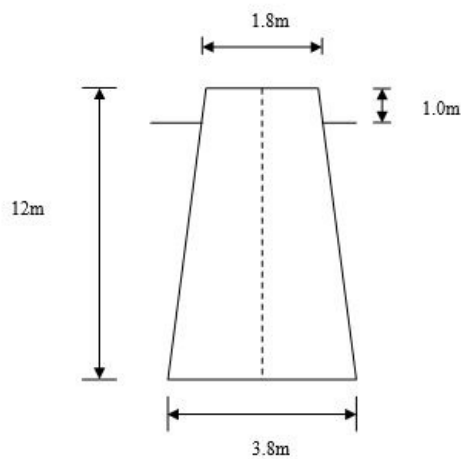

Fig. 1
7. Verify the adequacy of the dimensions for the pier as shown in Fig.1. The following details are available.